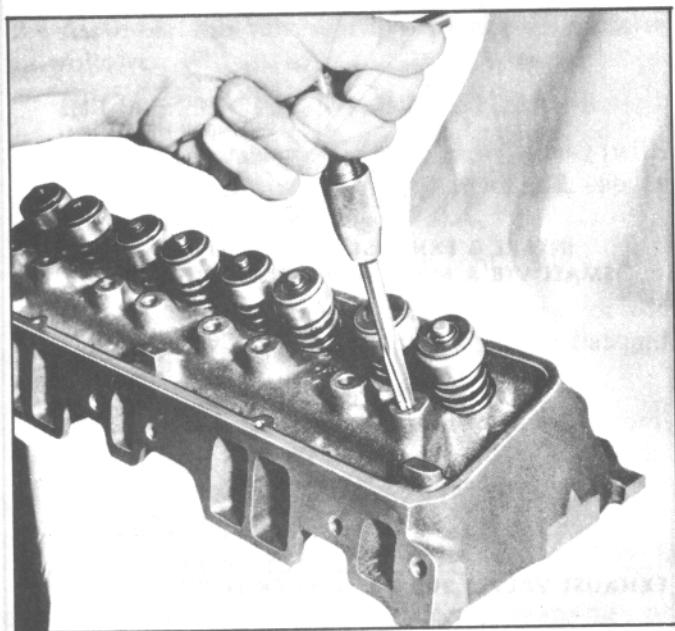

Fig. 103. Reaming Rocker Arm Stud Bore
2. Ream hole for oversize stud using tool J-5715 for .003" oversize or tool J-6036 for .013" oversize (Fig. 103).